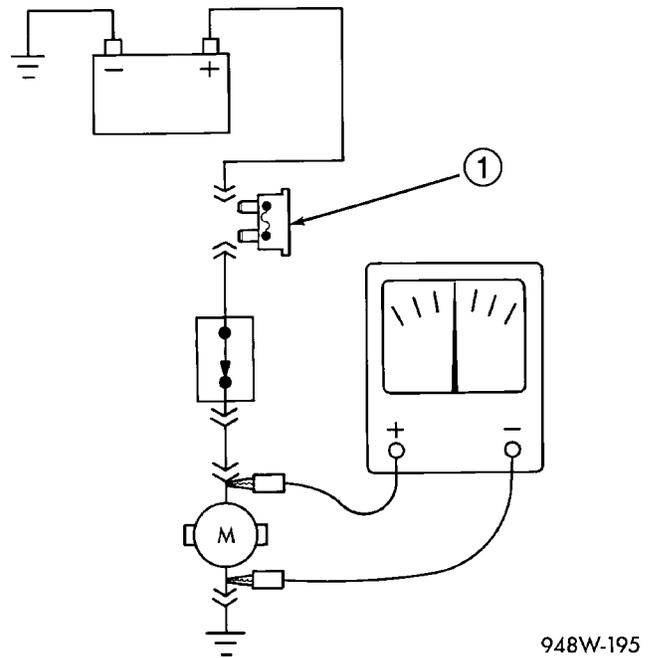

Fig. 8 TESTING FOR CONTINUITY
- (1) Remove the fuse for the circuit being checked or, disconnect the battery.
- (2) Connect one lead of the ohmmeter to one side of the circuit being tested (Fig. 8).
- (3) Connect the other lead to the other end of the circuit being tested. Low or no resistance means good continuity.